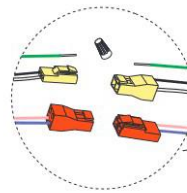

Figure 3
3. Wiring must connect connectors with corresponding colors as shown. (Figure 3)